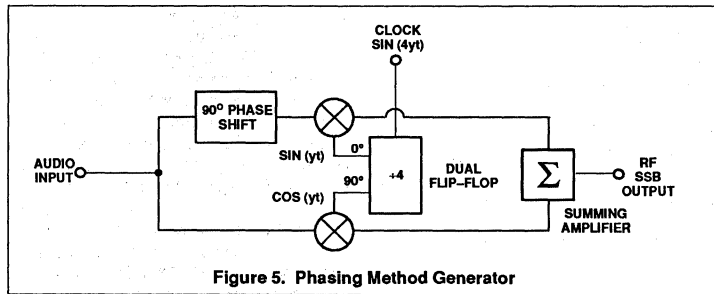
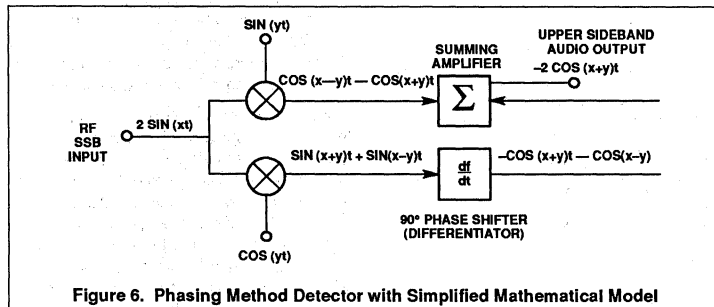

Figure 5. Phasing Method Generator
Figure 6. Phasing Method Detector with Simplified Mathematical Model
Figures 5 and 6 show block diagrams of a generator and demodulator which use the phase method. Figure 6 also includes a mathematical model. The input signal ($\cos(Xt)$) is fed in-phase to two RF mixers where "X" is the frequency of the input signal. The other inputs to the mixers are fed from a local oscillator (LO) in quadrature ($\cos(Yt)$ and $\sin(Yt)$), where "Y" is the frequency of the LO signal. By differentiating the output of one of the mixers and then summing with the other, a single sideband response is obtained. Switching the mixer output that is differentiated will change the selected sideband, upper (USB) or lower (LSB). In most cases the mixer outputs will be the audio passband (300 to 3000Hz). Differentiating the passband involves a 90 degree phase shift over more than three octaves. This is the most difficult aspect of using the phasing method for voice band SSB.